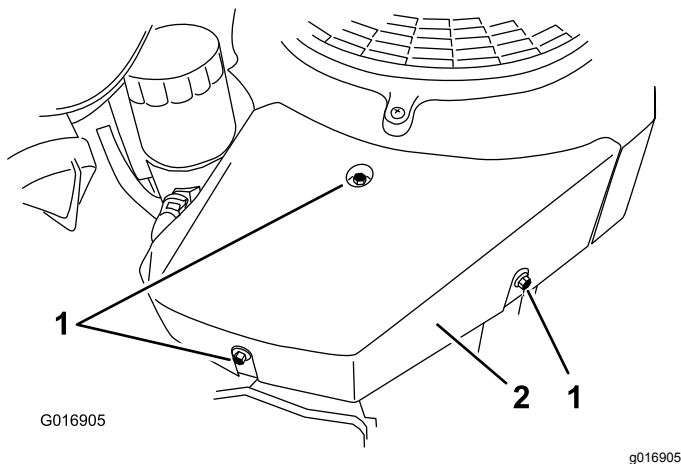

Figure 74
3. Remove the right shroud by removing the top mounting screw and loosening the 2 side screws (Figure 74).